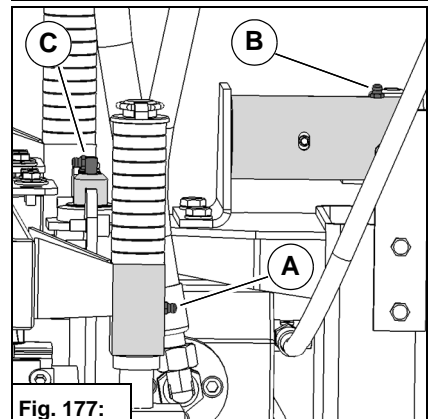

Fig. 177:
- Left/right supporting wheels (2 pcs.) **Fig. 177-A**
- Supporting tube on the coupling triangle (1 pc.) **Fig. 177-B**
- Bearing bolt (2 pcs.) **Fig. 177-C**